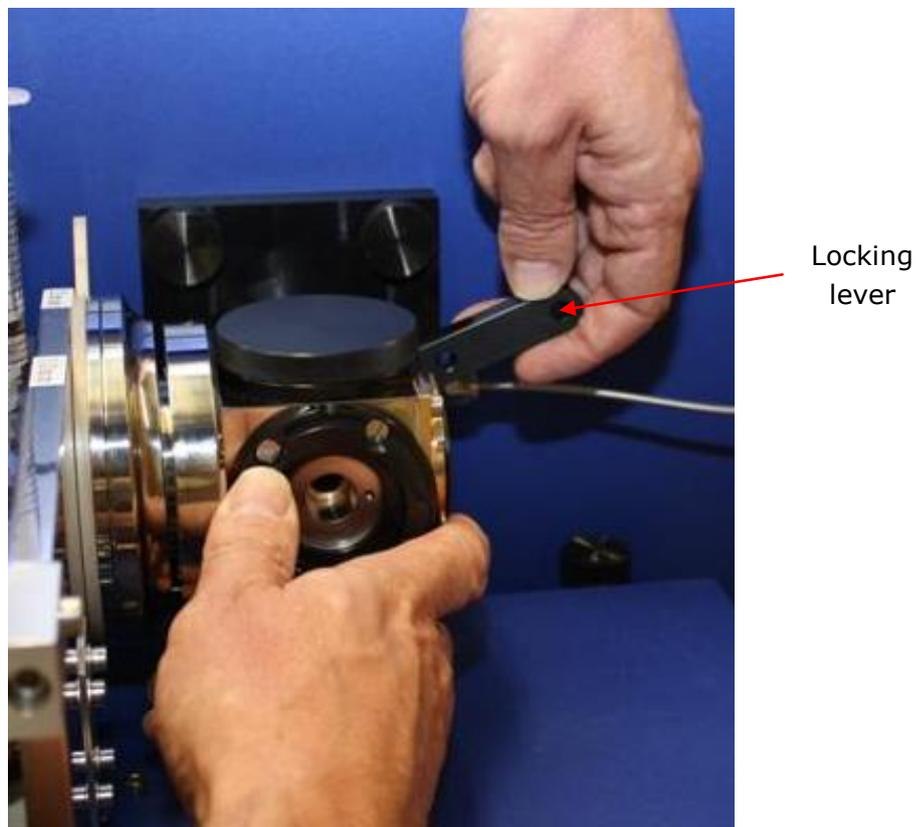

Figure 5.3: the male connector on the SF.3 being eased into the female on the Spectrometer, while the locking lever is held in the Unlock position
5. While supporting the sample chamber so that its weight is not being taken by the joint with the waterbath, and, with the locking lever in the Unlock position, i.e. about 30° above horizontal, ease the male connector on the SF.3 into the female connector on the spectrometer (Figure 5.3, below)